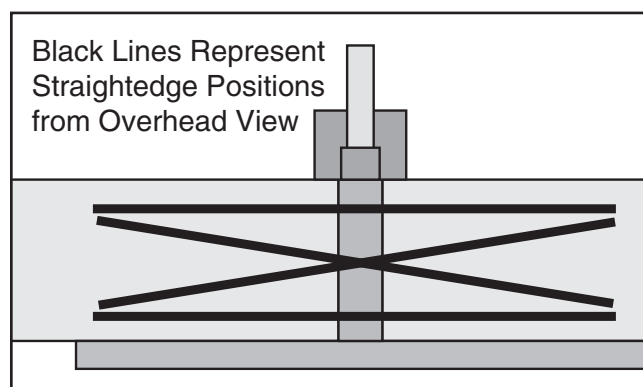

Figure 71. Straightedge positions for checking infeed/outfeed table parallelism.
3. Place the straightedge in the positions shown in **Figure 71**. In each position, the straightedge should sit flat against both the outfeed table and the infeed table.